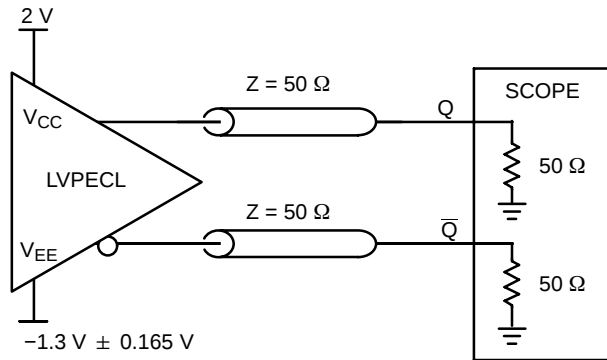

Figure 4. Output Load AC Test Circuit (Split Power Supply)
2. Outputs terminated with 50Ω to $V_{CC} - 2.0 \text{ V}$. See Figures 4 and 12.
- Output terminated with 50Ω to $V_{CC} - 2.0 \text{ V}$. See Figures 4 and 12.